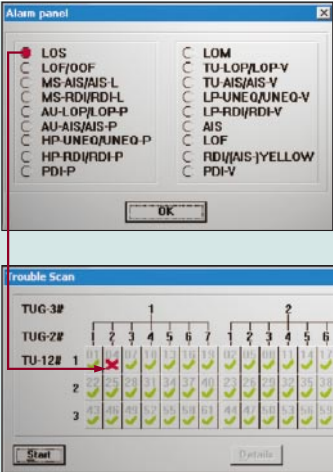

figure 3 TROUBLE SCAN
*Automatic TROUBLE SCAN function (figure 3)*